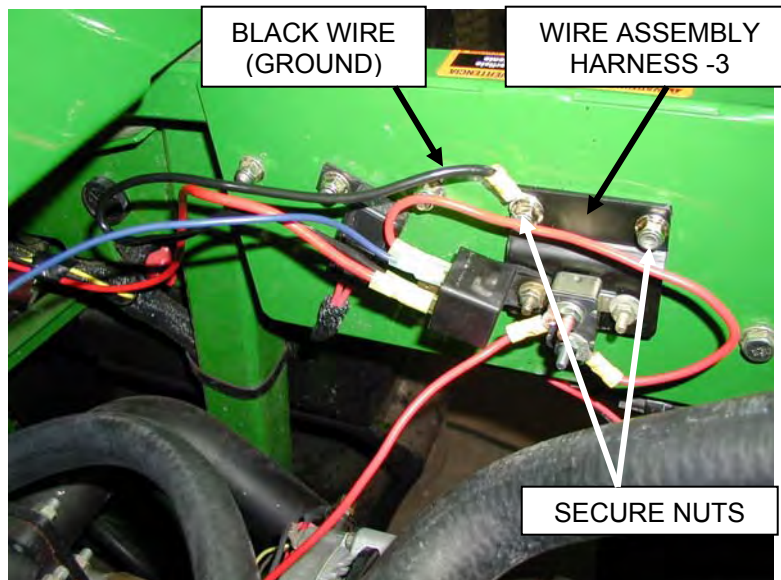

Figure 3-6
- 3.6) Install the wire assembly harness –3 (See Figure 3-6).